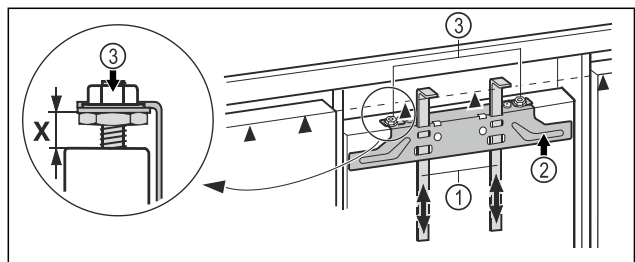

Fig. 43
- ▶ Push the assembly aids Fig. 43 (1) up to unit door height. Lower stop edge ▲ of the assembly aid = upper edge of the unit door to be assembled.
- ▶ Unscrew the fastening bar Fig. 43 (2) using the lock nuts Fig. 43 (3).